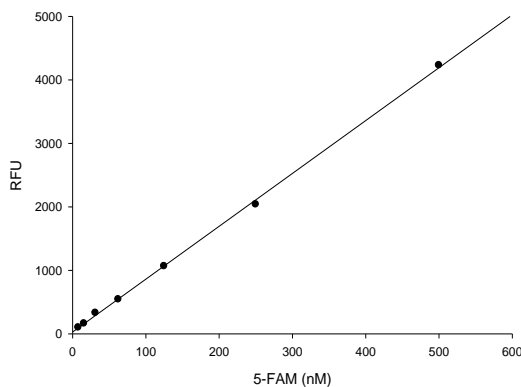

Figure 2. 5-FAM reference standard.
- Plot 5-FAM fluorescent reference standard as RFU (relative fluorescent unit) versus concentration as **Figure 2**.